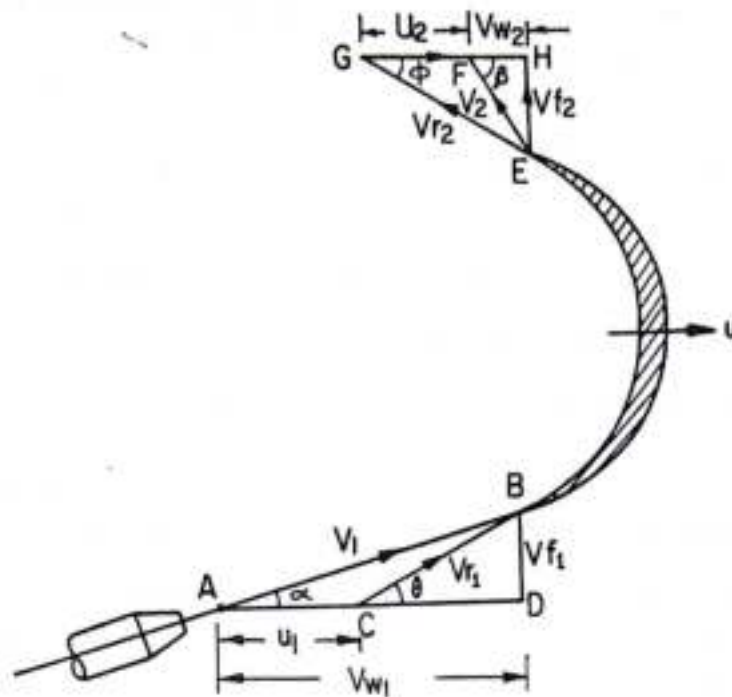

Fig. 17.15. Jet striking a moving curved vane at one of the tips.
**17.4.4. Force exerted by a Jet of Water on an Un-Symmetrical moving Curved Plate when Jet strikes tangentially at one of the tips.** Fig. 17.15 shows a jet of water striking a moving curved plate (also called vane) tangentially, at one of its tips. As the jet strikes tangentially, the loss of energy due to impact of the jet will be zero. In this case as plate is moving, the velocity with which jet of water strikes is equal to the relative velocity of the jet with respect to the plate. Also as the plate is moving in different direction of the jet, the relative velocity at inlet will be equal to the vector difference of the velocity of jet and velocity of the plate at inlet.
$= V_{r1} \cos \theta = (V_{w1} - u_1)$  (See Fig. 17.15)
The equation (iii) is true only when angle  $\beta$  shown in Fig. 17.15 is an acute angle. If  $\beta = 90^\circ$ , the  $V_{w2} = 0$ , then equation (iii) becomes as,